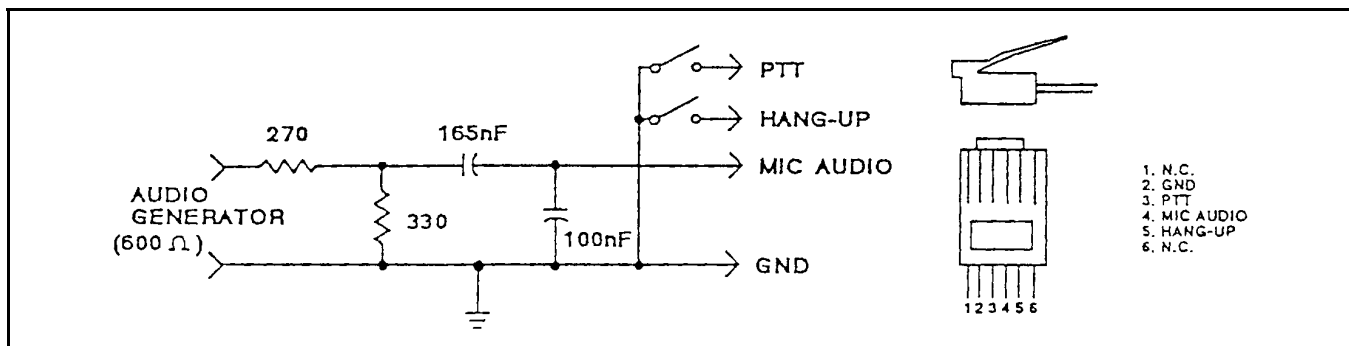

Figure 5 - Microphone Matching Network
11. Plug a dummy microphone circuit (see Figure 5) into modular microphone jack on the front panel. Connect an audio generator to the dummy microphone circuit and set the audio frequency to 1000 Hz. Adjust the output of the audio generator until the sine wave on the oscilloscope just shows clipping on the peaks. Increase the audio level by 20 dB (factor of 10 in voltage).